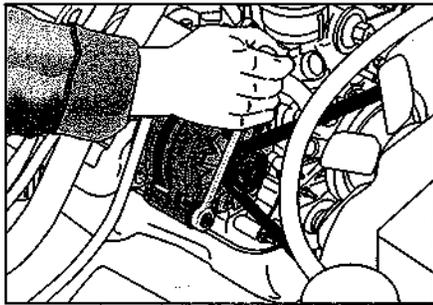

Figure 14-11:
Figure 14-11 shows the alternator pivot bolt being loosened. Look for a similar bolt attached to the part driven by the belt you're adjusting.
1. Loosen the part driven by the belt by loosening the pivot bolt or securing nut (refer to Figure 14-11).
- S. Pull the part by hand until the belt is snug; then use a hammer handle to apply leverage until the belt has less than $\frac{1}{8}$ inch of "play." Tighten the adjustment bolt or securing nut (see Figure 14-15). Tighten the pivot bolt or securing nut (refer to Figure 14-11).